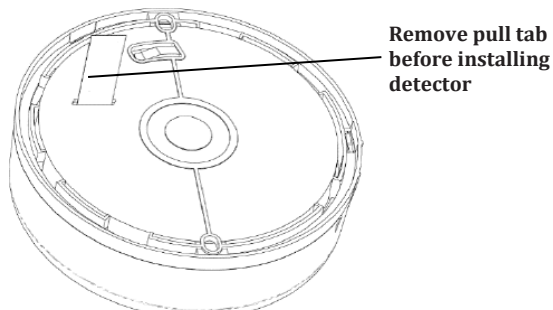

Figure 4 - Pull Tab
2. Remove the battery pull-tab to power on the device and begin the auto-enrollment process (See Figure 4). If the battery pull-tab is not available or if the device does not automatically enroll, remove and re-insert the batteries (See Section 7.2).